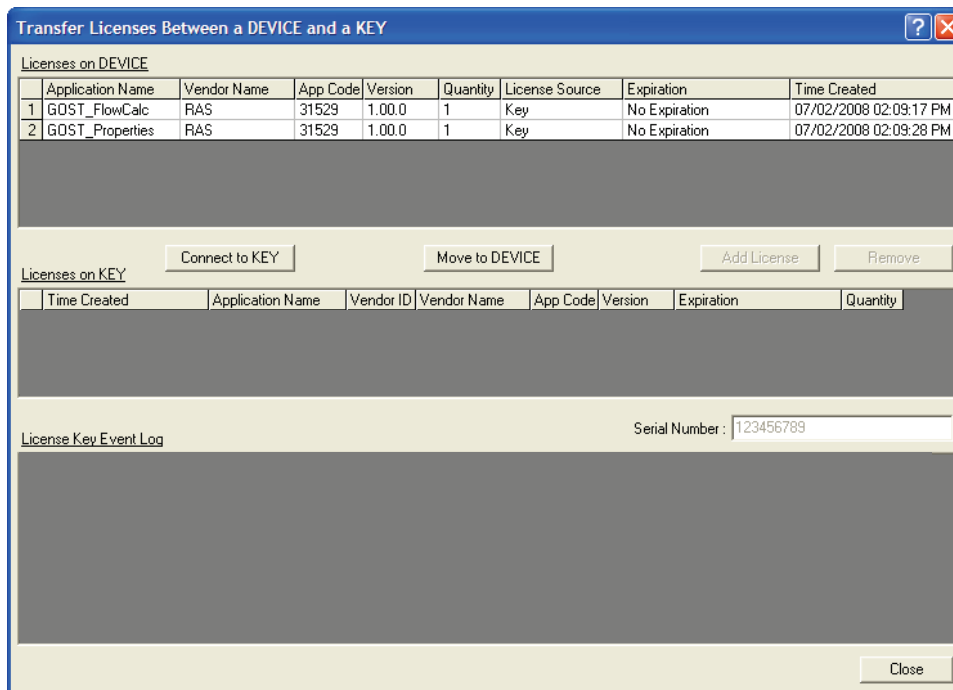

Figure 2-2. License Installed
3. Select the key-based licenses you want to transfer to the FB107 (GOST\_FlowCalc, as shown in *Figure 2-2*).